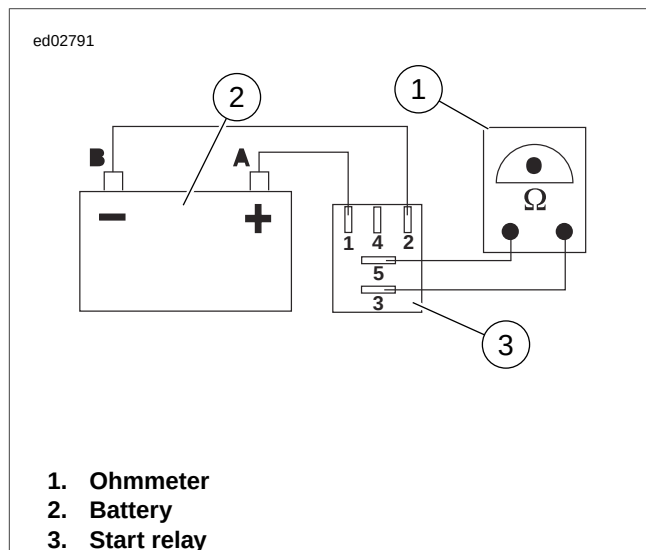

Figure 1-5. Start Relay Test
- b. See Figure 1-5. To energize the relay, connect the negative battery terminal to the relay terminal "85" (or "2") and relay terminal "86" (or "1") to the positive battery terminal.